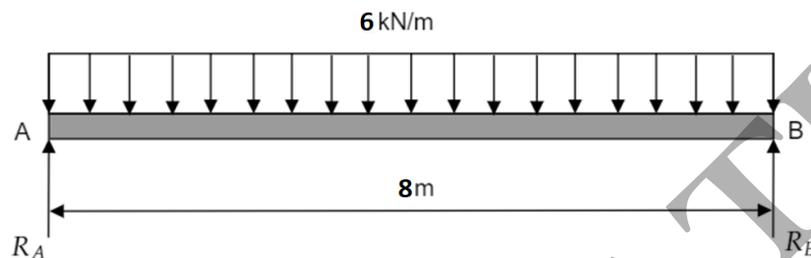

Figure Q6: Simply Supported Beam with uniformly distributed load (UDL).
- a) A bridge can be assumed as a simply supported beam, which is given in **Figure Q6**. Assume that the beam is at steady state and ignore its weight.